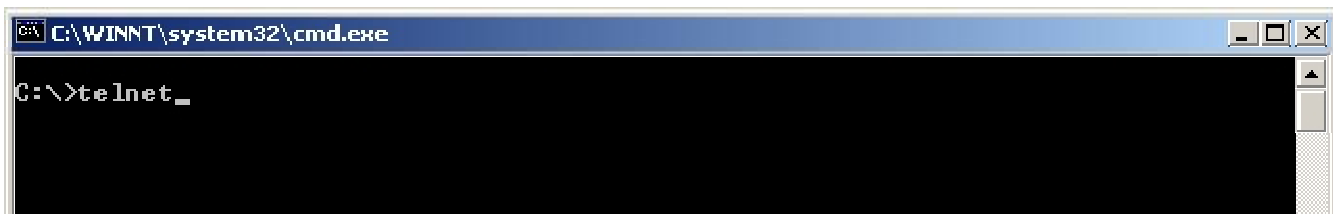

Fig. 11 – Run...
- 2) Run Telnet. (Type "Telnet" in the newly opened window and push Enter – cf. the Fig. 11).